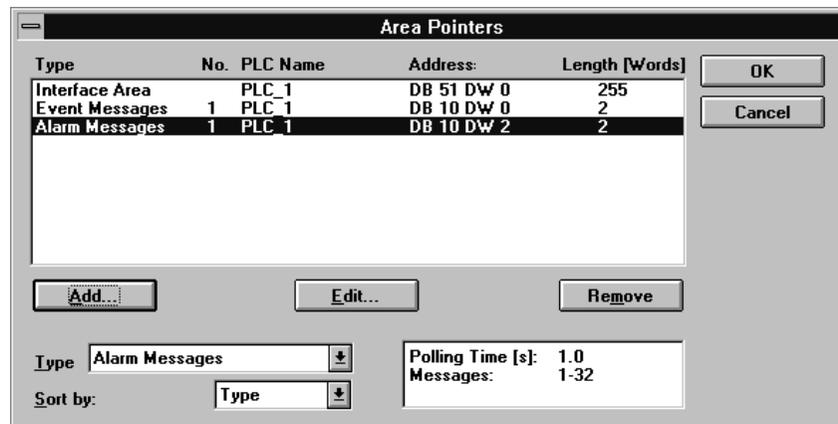

Figure 8-6 Area Pointers Dialog Box
1. Choose *System* → *Area Pointers* from the menu to create an alarm message area. The *Area Pointers* dialog box is opened (figure 8-6).